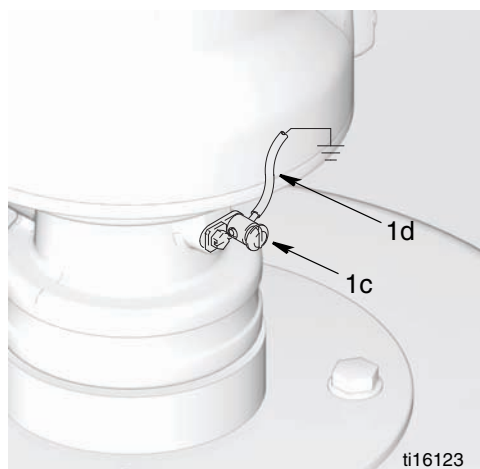

FIG. 1
- **Pump:** Use a ground wire and clamp as shown in FIG. 1.